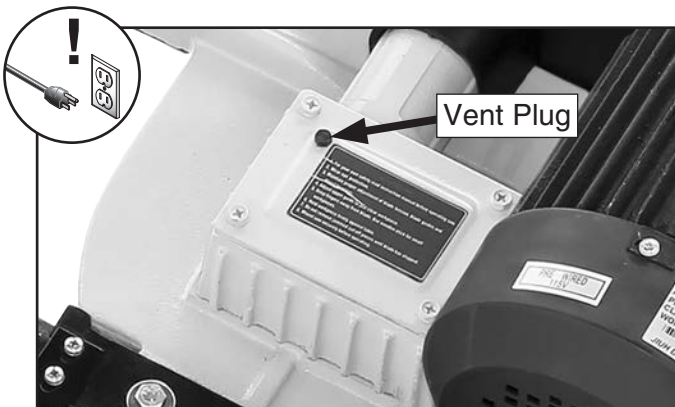

Figure 68. Location of gearbox vent plug.
After the first 50 hours of use, the fluid level of the gearbox should be checked weekly. Use an 8mm wrench to remove the vent plug shown in **Figure 68** to check fluid level. If oil is not visible when plug is removed, slowly add just enough oil so you can see oil level. Clean vent plug threads, then wrap them with thread-sealing tape before replacing.
6. Remove vent plug shown in **Figure 68**, then fill gearbox with oil until you can see it in vent plug hole.